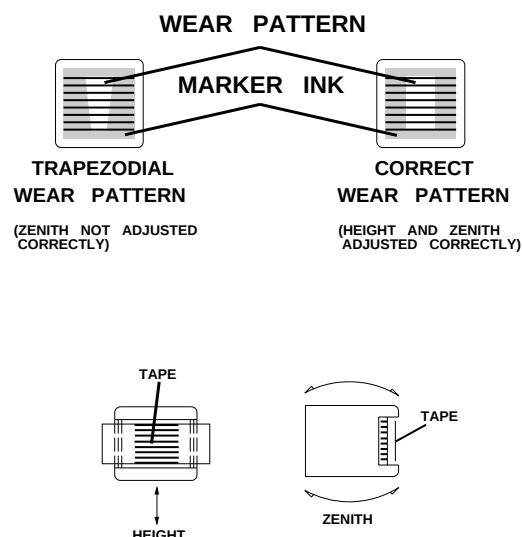

Figure 6-10
5. Inspect the face of each head where the passage of the tape has worn away the ink. If the wear pattern does not match that shown in Figure 6-10, readjust the screws "T" and "H".